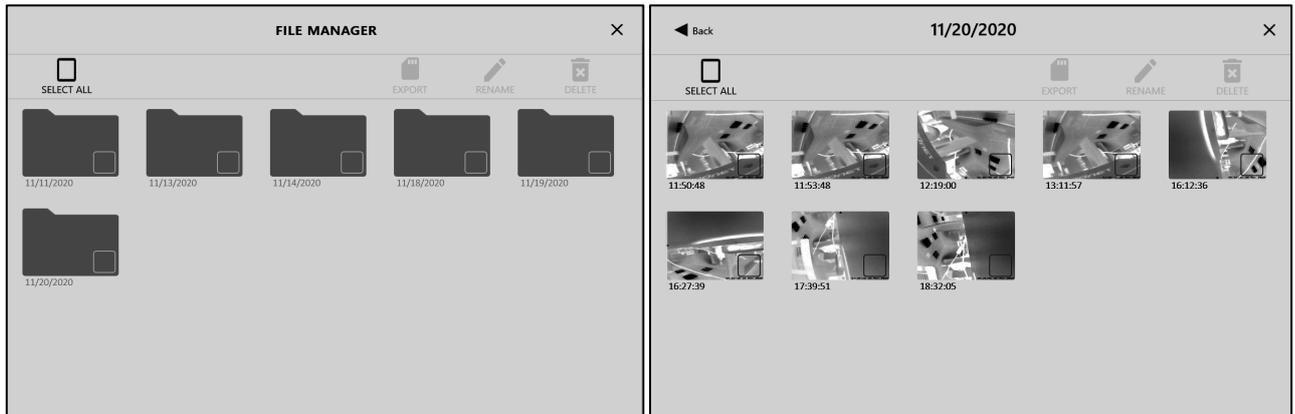

Figure 11 - File Manager Screens
- 3.1. By default, the file manager includes folders sorted by dates and files are sorted by time (Figure 11).